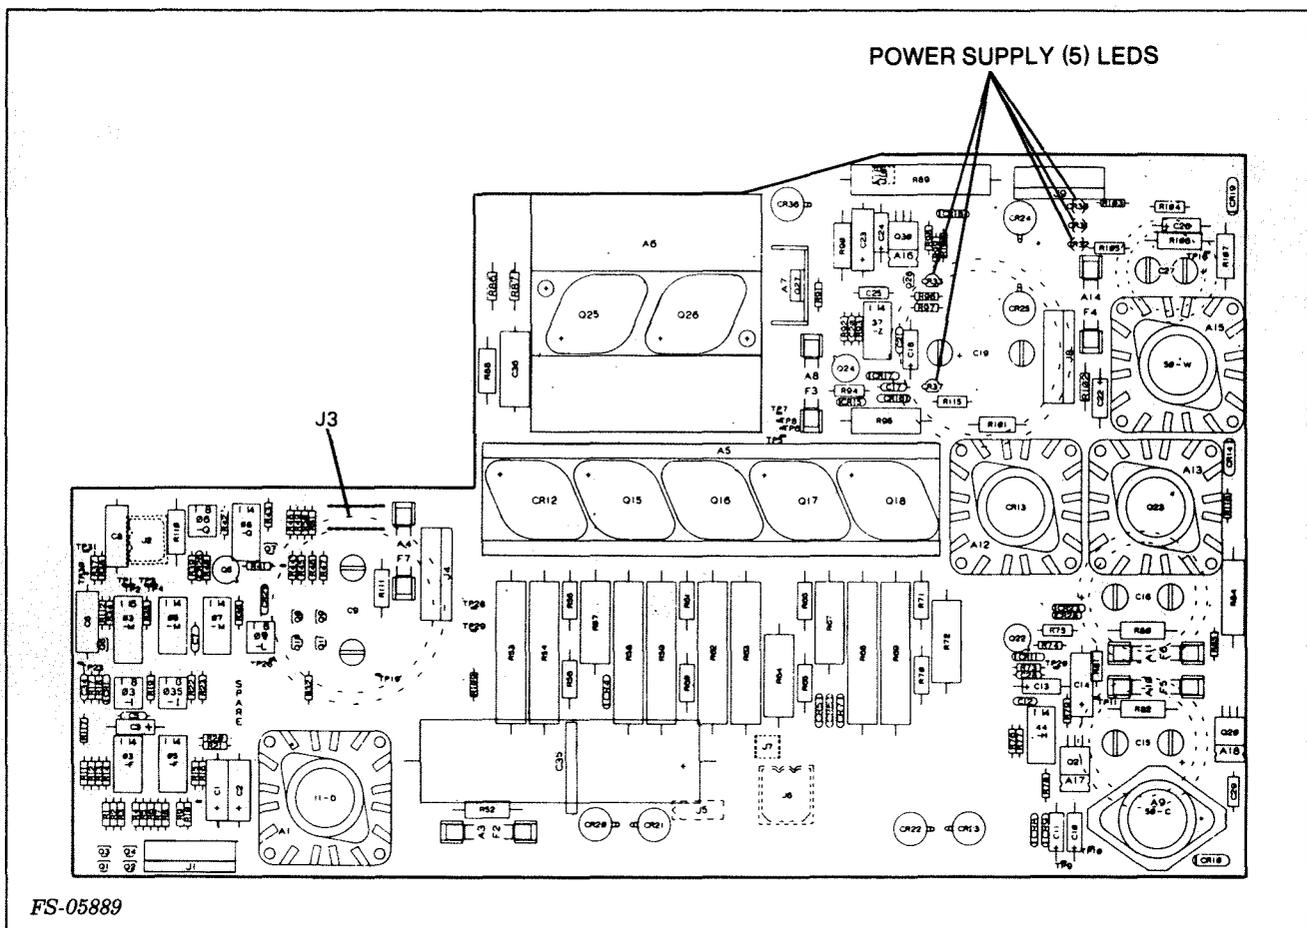

Figure 5-21. Power Supply LEDs
9. Power up the drive. The power supply PCB has five LEDs. When the power switch is turned on, all five LEDs should light (see Figure 5-21). If any of them do not, go to the power supply check flowchart (Figure 4-9) before continuing.